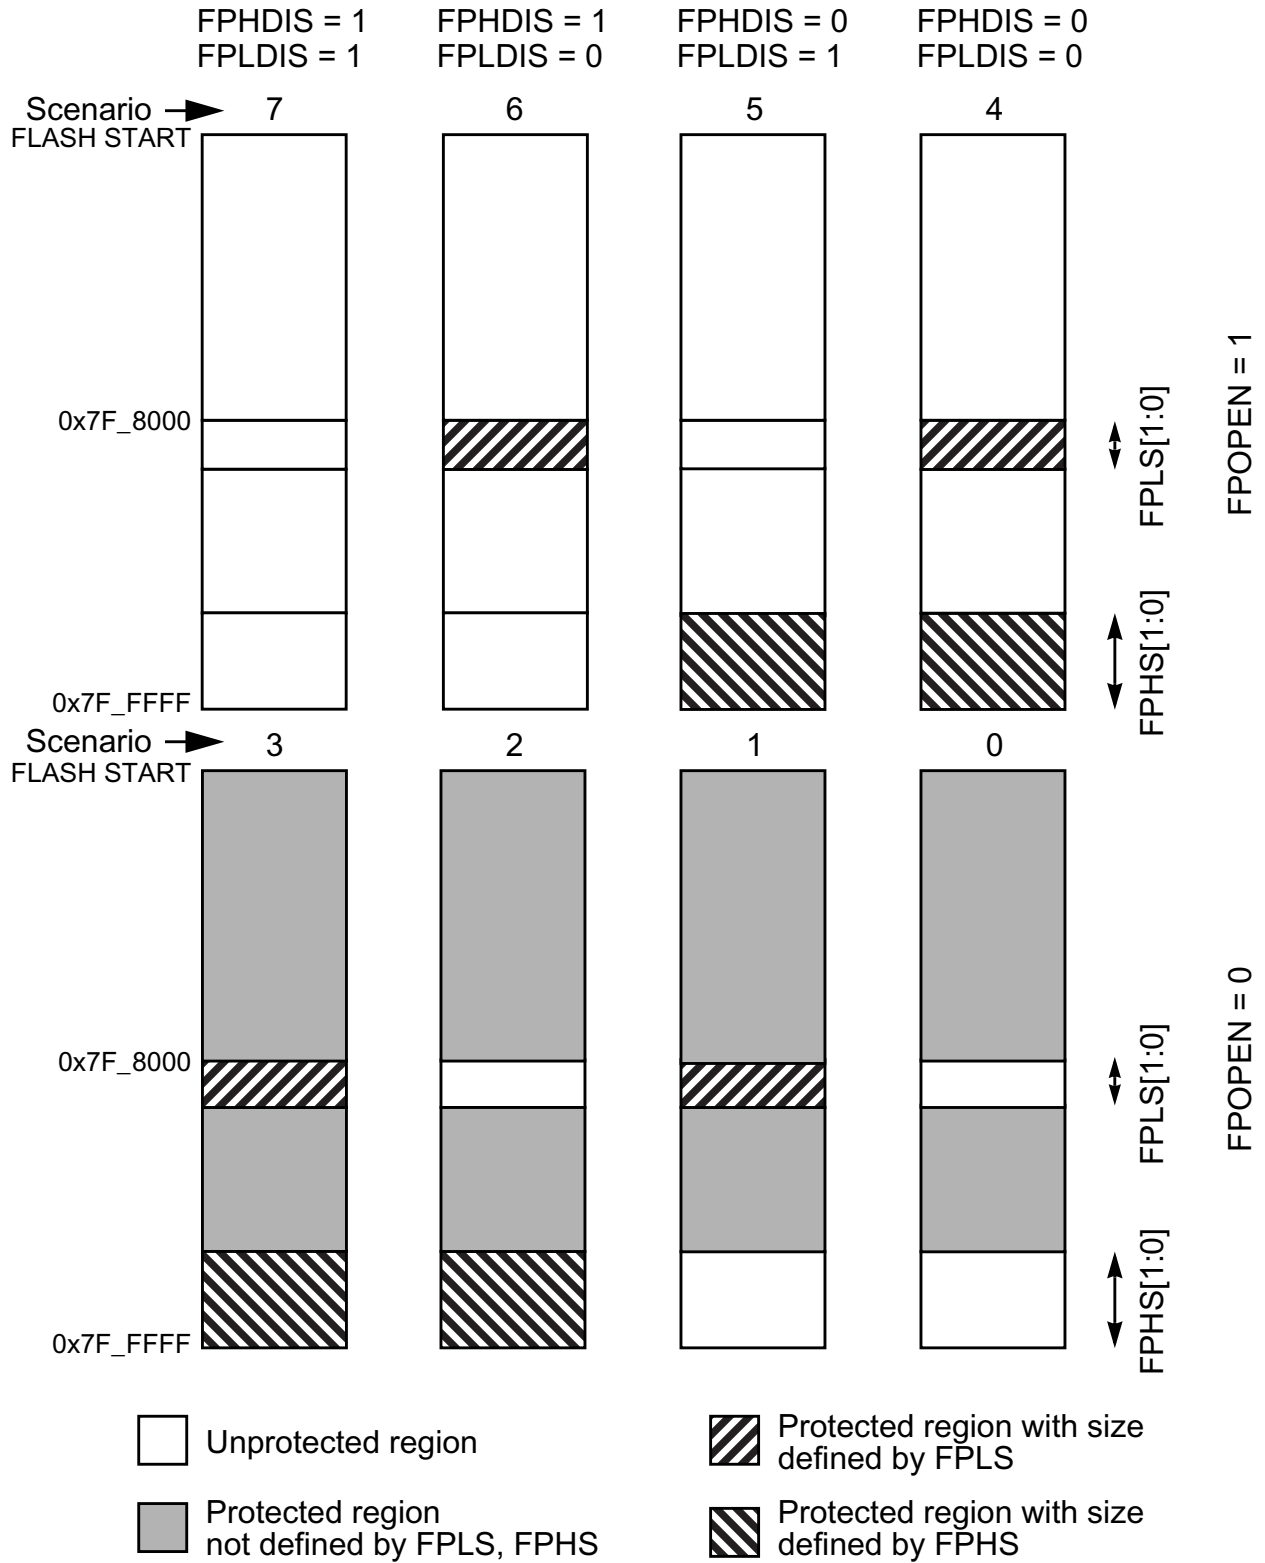

Figure 29-14. P-Flash Protection Scenarios
All possible P-Flash protection scenarios are shown in Figure 29-14. Although the protection scheme is loaded from the Flash memory at global address 0x7F_FF0C during the reset sequence, it can be changed by the user. The P-Flash protection scheme can be used by applications requiring reprogramming in single chip mode while providing as much protection as possible if reprogramming is not required.
1. Allowed transitions marked with X, see Figure 29-14 for a definition of the scenarios.